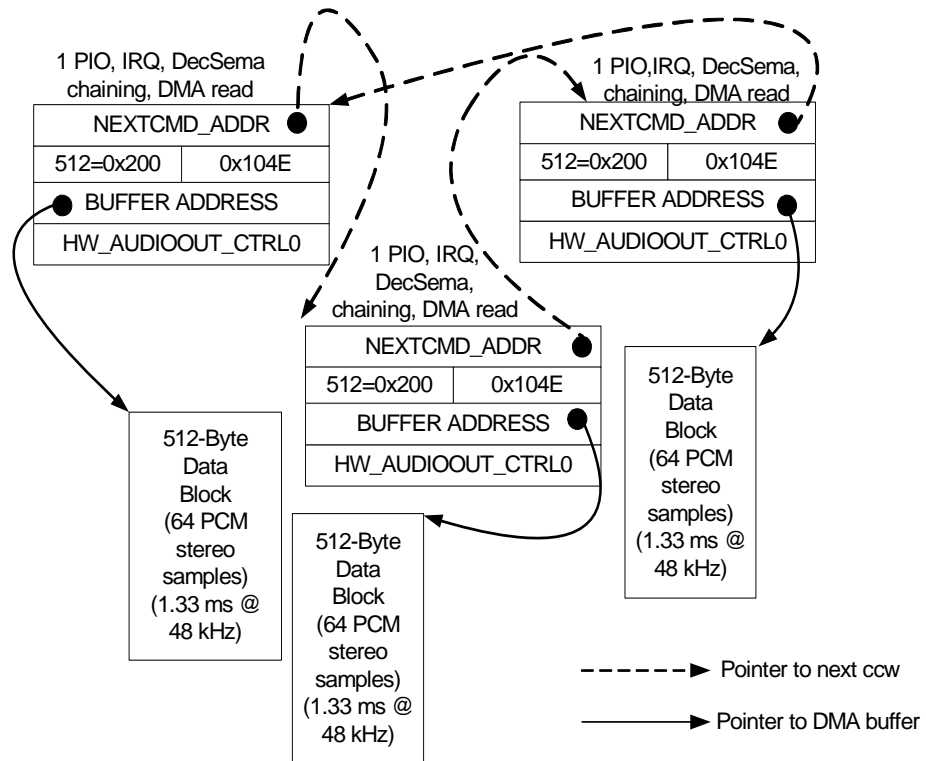

Figure 35. AHB-to-APBX Bridge DMA AUDIOOUT (DAC) Example Command Chain
Figure 35 shows the CHAIN bit in bit 2 of the second word of the command structure. This bit is set to 1 if the NEXT\_COMMAND\_ADDRESS contains a pointer to another DMA command structure. If a null pointer (0) is loaded into the NEXT\_COMMAND\_ADDRESS, it will not be detected by the DMA hardware. Only the CHAIN bit indicates whether a valid list exists beyond the current structure.
The example in Figure 35 shows how to bring the basic items together to make a simple DMA chain to read PCM samples and send them out the Audio Output (DAC) using one DMA channel. This example shows three command structures linked together using their normal command list pointers. The first command writes a single PIO word to the HW\_AUDIOOUT\_CTRL0 register with a new word count for the DAC. This first command also performs a 512 byte DMA\_READ operation to read the data block bytes into the DAC. A second and a third DMA command structure also performs a DMA\_READ operation to handle circular buffer style outputs. The completion of each command structure generates an interrupt request. In addition, each command structure decrements the semaphore. If the decompression software has not provided a buffer in a timely fashion, then the DMA will stall. Without the decrement semaphore interlocking, then the DMA will continue to output a stream of samples. In this mode, it is up to software to use the interrupts to synchronize outputs so that underruns do not occur.